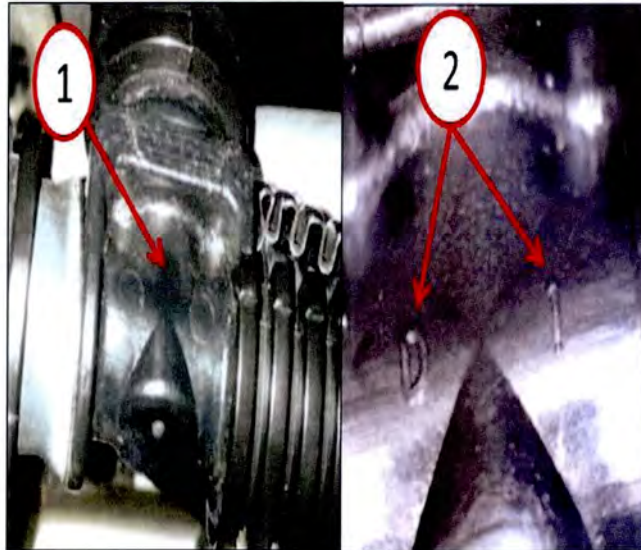

Fig. 2 Boost Vacuum Purge Harness Tee
4. Inspect the tee in boost vacuum purge harness (Fig. 2).